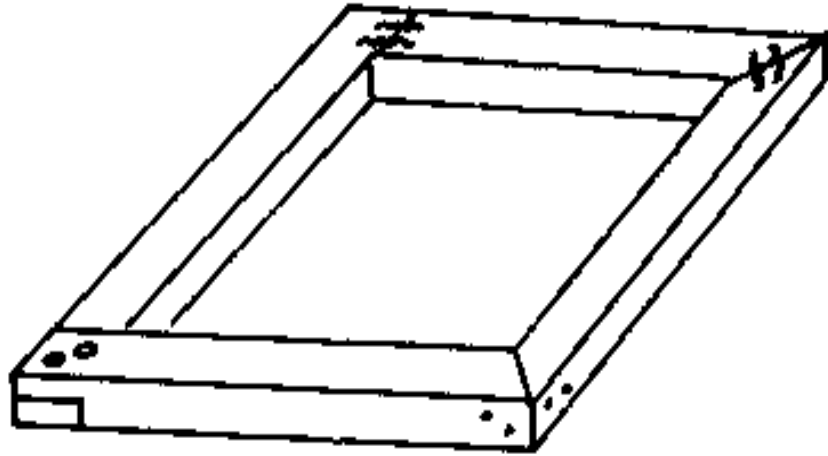

FIGURE 1. MAKING THE FRAME OF THE SILK SCREEN. DIFFERENT JOINT CONSTRUCTIONS ARE SHOWN AT EACH CORNER; ANY ONE OF THESE MAY BE USED FOR THE JOINTS OF THE FRAME.
1. Build a frame (see Figures 1 and 2), using 1.9cm x 5cm (3/4" x 2") plywood